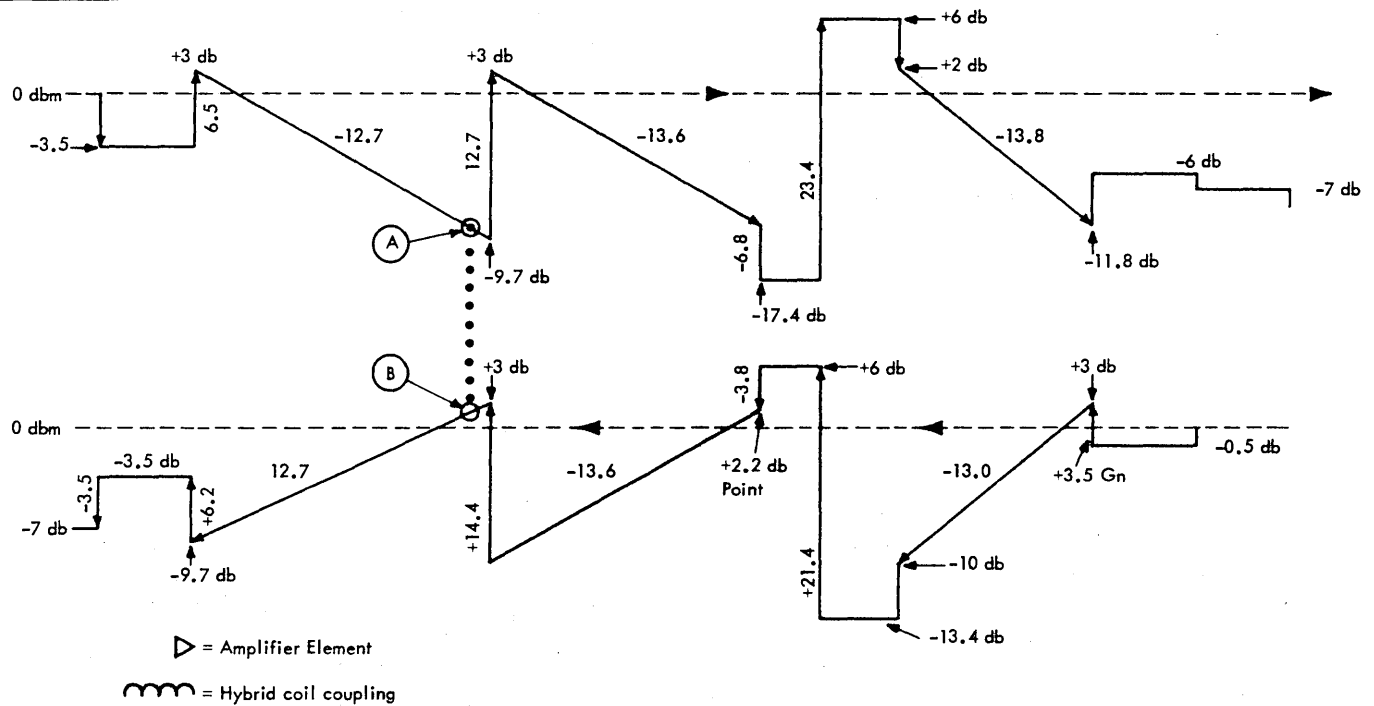

FIGURE 2-15. TELEPHONE LINE, ENERGY LEVEL DIAGRAM
In order to combat the problem of attenuation, it is necessary that the telephone company know where the attenuation is occurring and its magnitude. To determine this, they plot an energy level diagram of the line. See Figure 2-15, which shows the energy (power) levels in both directions along the line. The line schematic shows the various Repeaters used to boost the signal levels. Note that a signal cannot be allowed to deteriorate too much in power level before being amplified or the signal plus noise-to-noise ratio will suffer. The signal must be boosted before noise becomes an appreciable part of the signal plus noise value.
5. If a repeater is overdriven, the signal will be distorted just as turning the volume control too high on a record player causes distortion. If a "bus-back" (direct interconnection) were provided between the outgoing line of Figure 2-15 to the incoming line at points (A) and (B) respectively, would "overdrive" result?